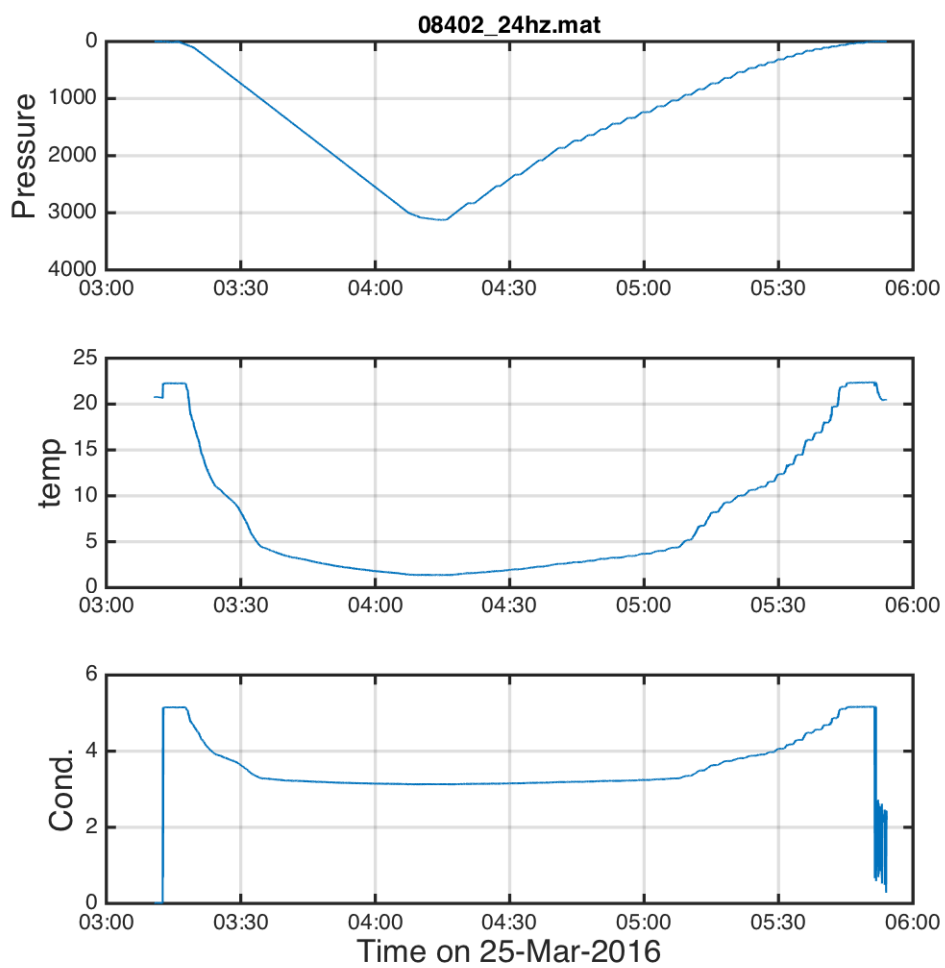
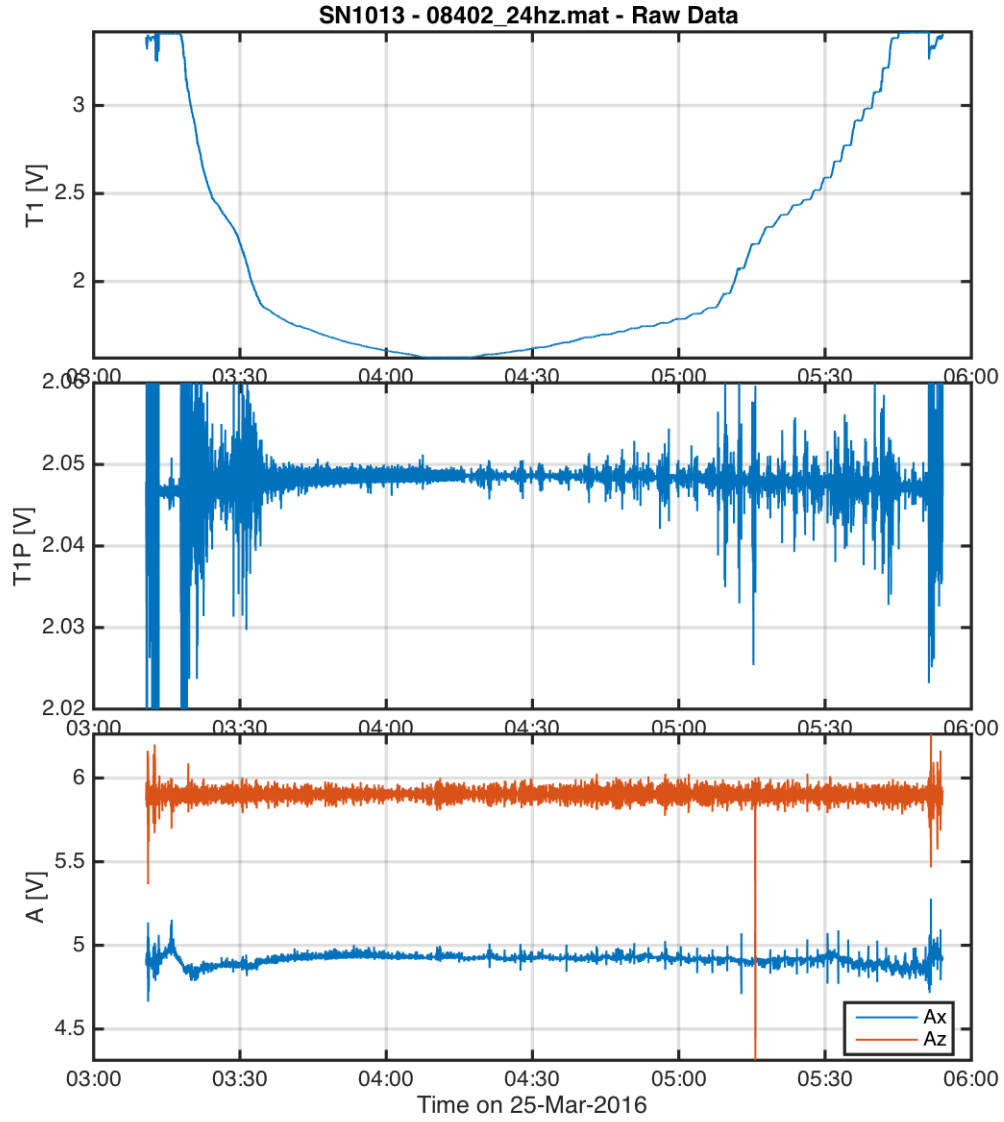

Figure 1: Time-series of raw CTD data for one cast: (a) Pressure (b) Temperature (c) Conductivity.
Figure 2: Time-series of raw  $\chi$ pod data (voltages) for one cast: (a) Temperature (b)  $dT/dt$  (c) Accelerometer.
- `castname_Fig0_RawCTD` (Figure 1).
- `castname_Fig1_RawChipodTS` (Figure 2).
- `castname_Fig2_w_TimeOffset` (Figure 3)